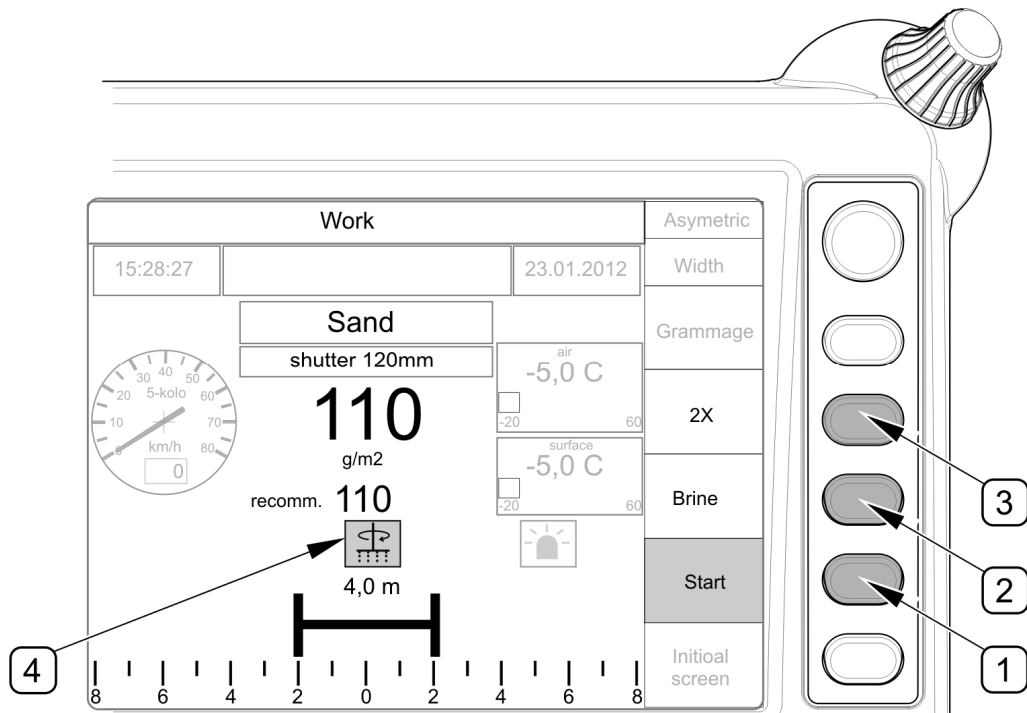

FIG. 4.28 Activation of spreading
(1) - spreading activation push-button; (2) - brine spraying activation push-button; (3) - double dose push-button; (4) - control icon of activated spreading
On control panel working page "Operation" (FIG. 4.28), activate spreading by means of push-button (1); "Start" function will be highlighted. Activation of spreading disc drive and belt conveyor is signalled by control icon (4). Brine spraying is switched on and off by means of push-button (2) "Brine". Push-button (3), marked „2X", is used for momentary doubling of spreading material dose.